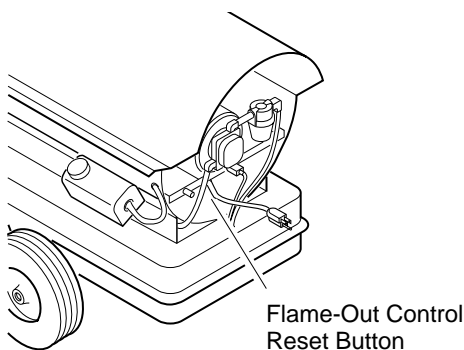

Figure 4 - Flame-Out Control Reset Button
7. The motor will start when extension cord is plugged into outlet. The heater should ignite at once. If heater does not ignite, restart heater. To restart heater, wait 60 seconds, then push in flame-out control reset button. Flame-out control reset button is at rear of heater near power cord (see Figure 4).